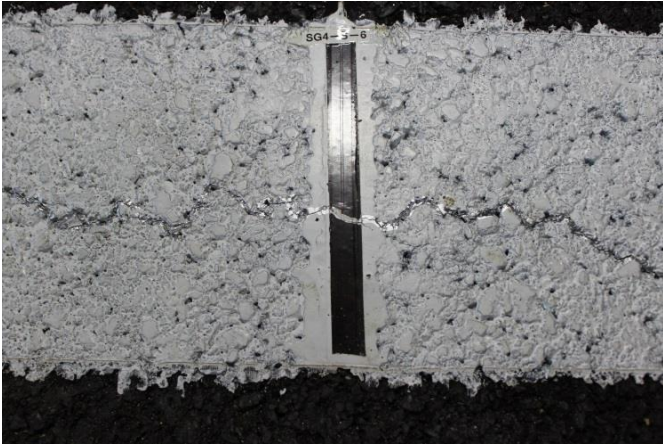

Figure 3. Second surface gauge SG4-S-6
- Second top surface gauge SG4-S-6, as shown in Figure 3.